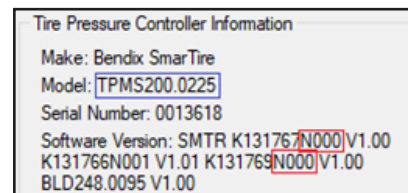

Figure 2 – Tire Pressure Controller Information
2. Locate the *Tire Pressure Controller Information* at the bottom of the window. See Figure 2.
- If this number is N000 (as shown in Figure 2), then the ECU requires updating.